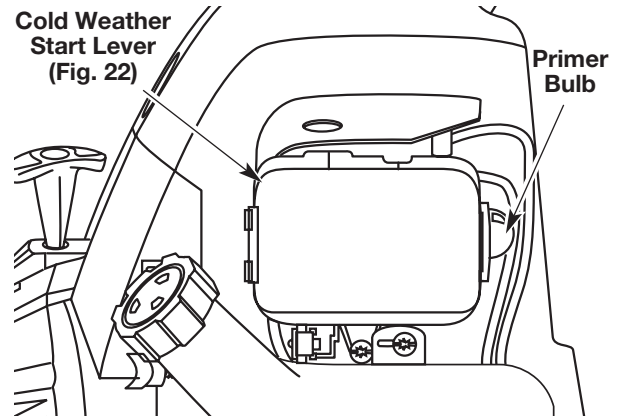

Fig. 20
3. Fully press and release the primer bulb 10 times, slowly. Some amount of **fuel should be visible in the primer bulb** and fuel lines (Fig. 20). If you can't see fuel in the bulb, press and release the bulb as many times as it takes before you can see fuel in it.